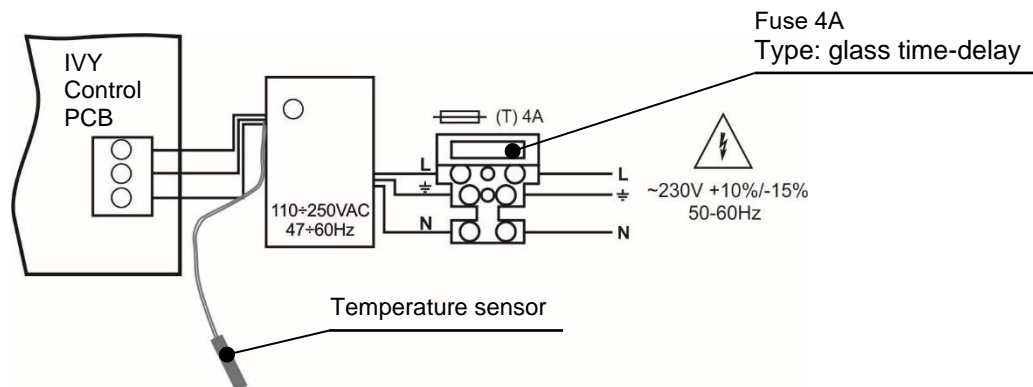

Figure 9 – Connecting the main power supply cable to the 230V terminal
- 3 – Terminal 230V for connection of the main power supply cable (see Figure 9)
The mains power supply of IVY panel is realized with connection of the main power cable to the 230V terminal, mounted in the metal box under the powers source. The connection between the 230V terminal and the main power source is done from the manufacturer. The connection of the main power supply cable to the 230V terminal is shown on Figure 9.